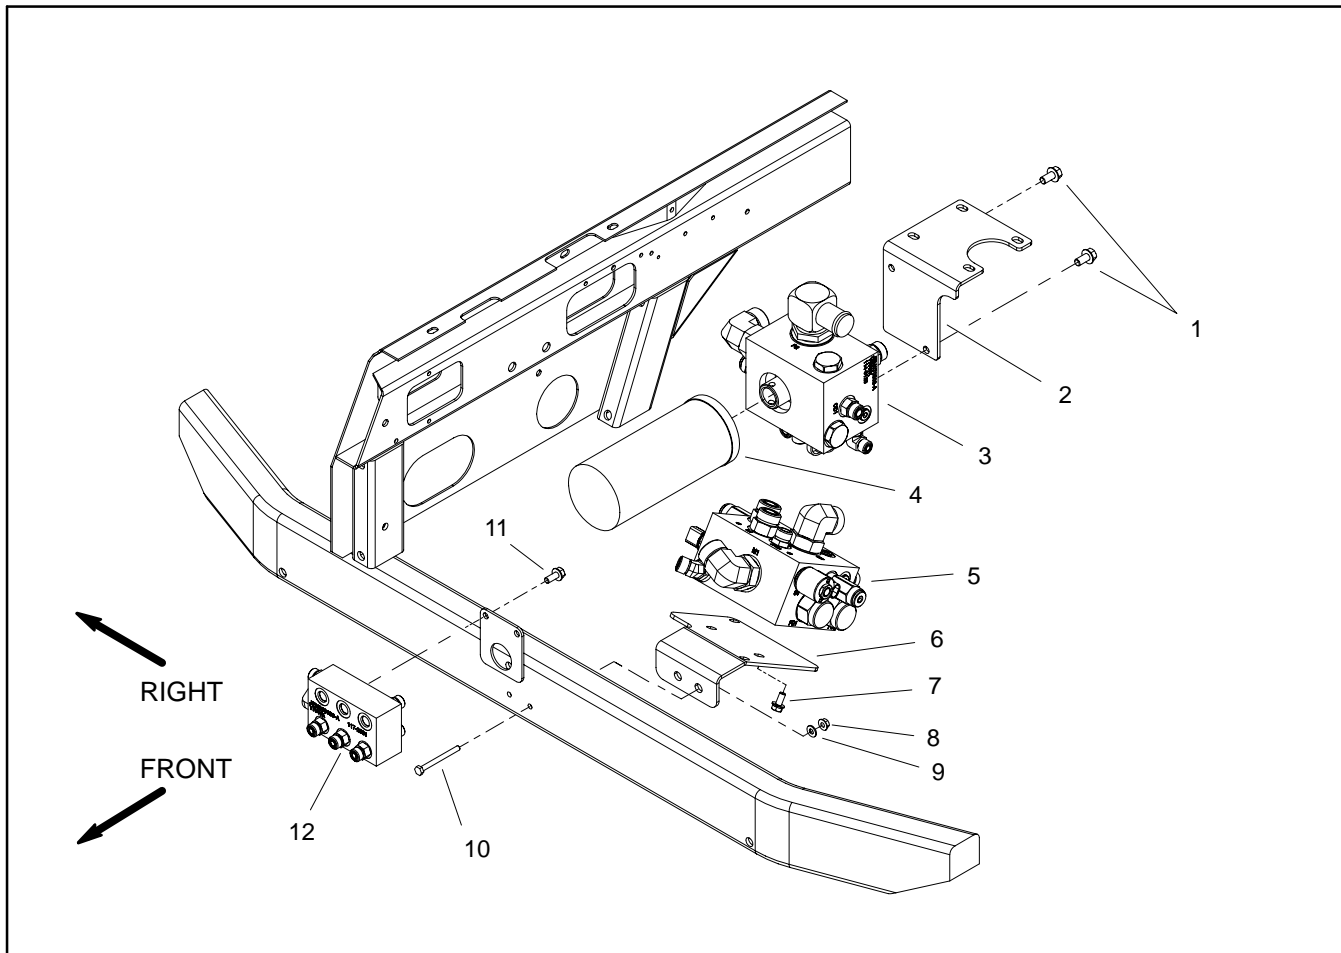

Figure 64
Removal (Fig. 64)
5. Remove hydraulic manifold from the frame using Figure 64 as guide.
Installation (Fig. 64)
2. Install hydraulic manifold to the frame using Figure 64 as guide.